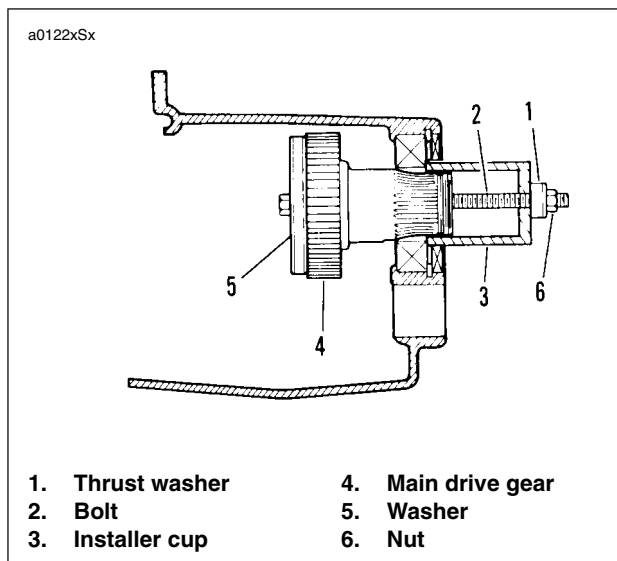
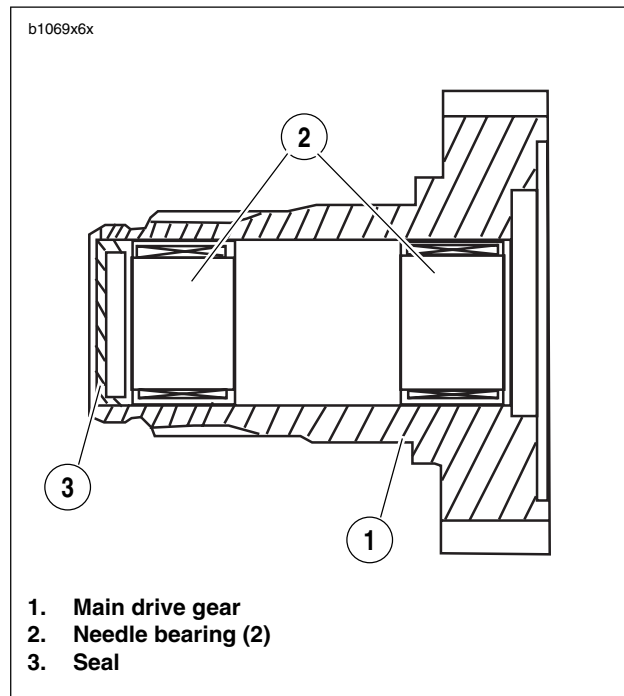

Figure 6-75. Main Drive Gear Installation
Figure 6-76. Main Drive Gear Assembly
3. See Figure 6-75. Use MAIN DRIVE GEAR REMOVER AND INSTALLER (Part No. HD-35316-A) for assembly.
- a. Take bolt (2) and place washer (5) followed by main drive gear (4) over end of bolt.
- c. Insert threaded end of bolt (2) through installer cup (3) and thrust washer (1).
- d. Thread nut (6) onto end of bolt (2). Tighten nut (6) until shoulder on gear (4) bottoms against inner race of bearing.
4. See Figure 6-76. Tap in **new** seal (3) at threaded end of 5th gear to a depth of 0.060-0.030 in. (1.524-0.762 mm).